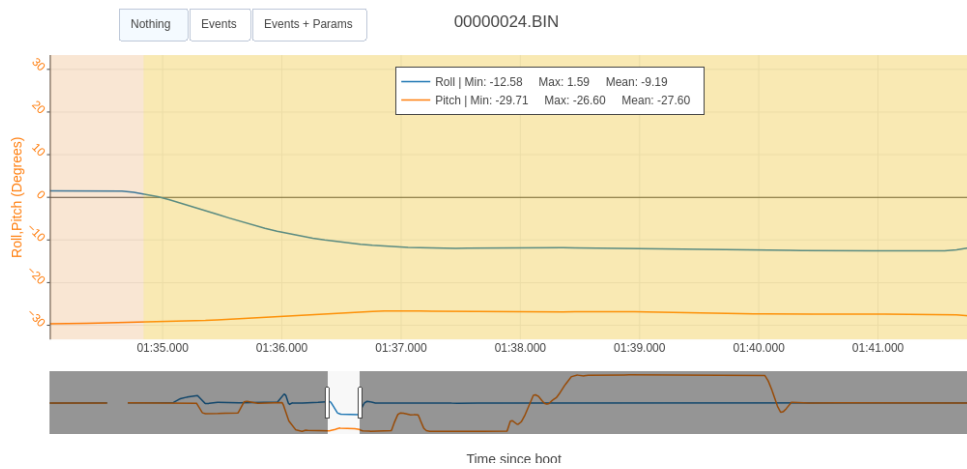

Figure 3: Waypoint 1 to Waypoint 2 (Pitch, Roll vs Time)
- It can be observed from fig. 3 that the mean roll angle is -9.19° roll towards left and mean pitch angle is about -27.60° (pitching down). During this part of the mission there is a crosswind from north to south and the vehicle is heading with a bearing of 90 degrees.